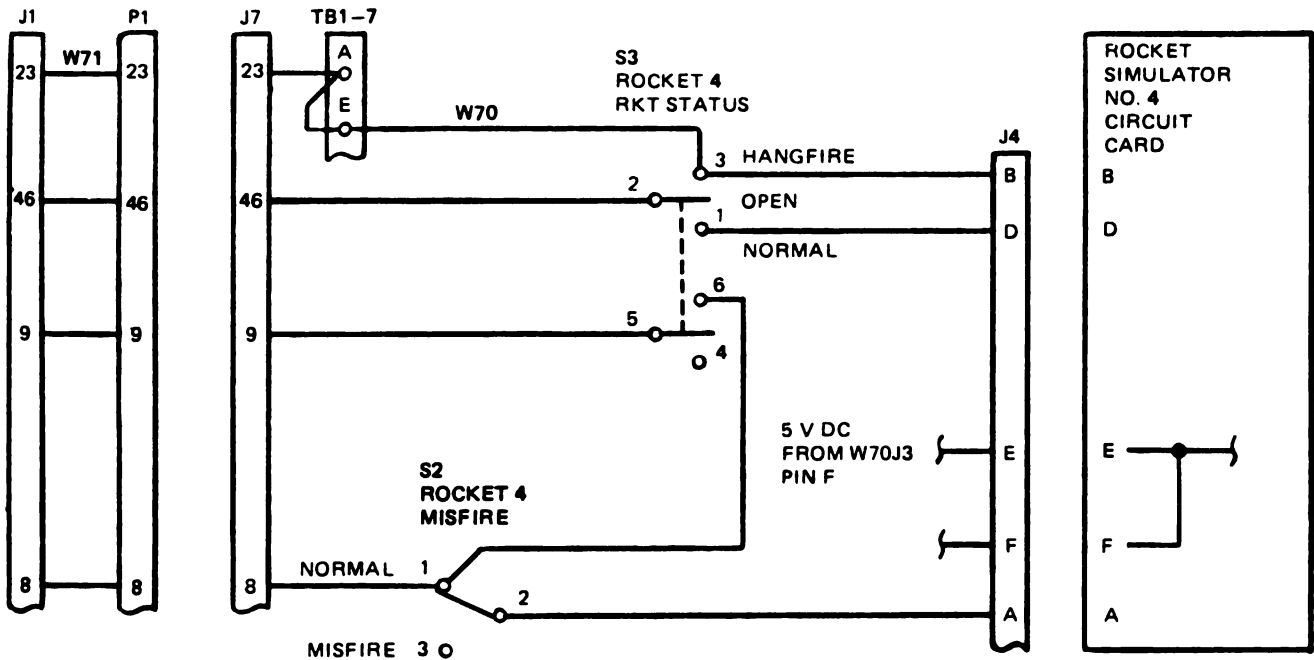

Figure 5-2. Rocket 4 Open Circuit Check
Step 2. Using a multimeter, perform rocket 4 open circuit check given in figure 5-2.